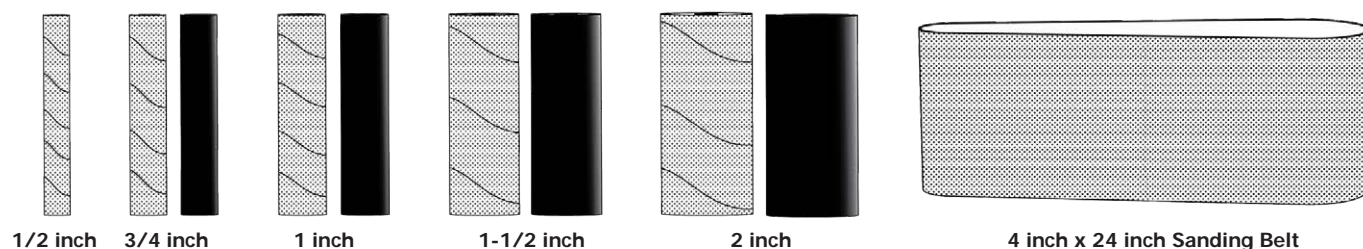

FIGURE 17
**NOTE: DO NOT** use sander without sandpaper. Doing so will damage the rubber drum. Select and install the desired sanding sleeve for your particular application. Sanding sleeves from 1/2 inch to 2 inch can be used with this sander. See Figure 17. Choose one that is close in size to the workpiece you are sanding. Also install the appropriate spacer ring insert (page 16).